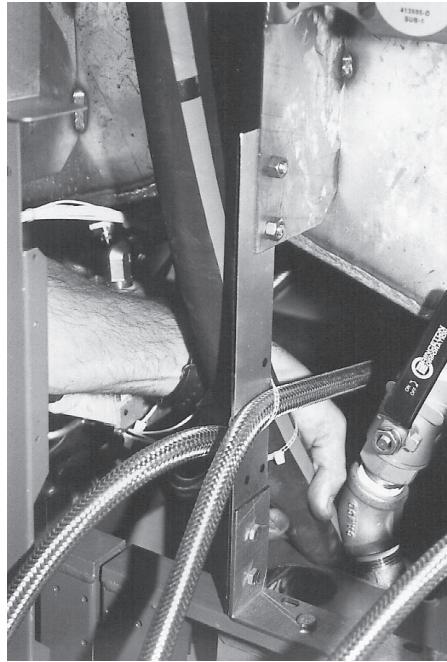

Fig. 46
7. Pull hose from scrap box. (Fig. 46)